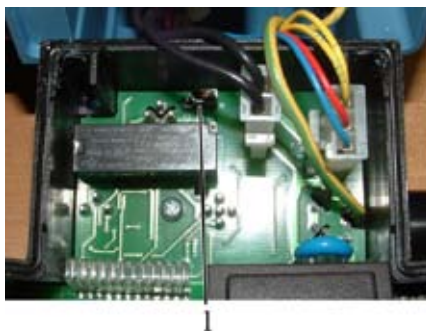

Figure 2.20 - Control Panel Internals
- With the front control panel removed, look for jumper J3 (Figure 2.20, item 1) on the circuit board (located near the inside bottom edge of the control panel). Using small needle nose pliers, remove the jumper from pins 2 and 3, and reinsert the jumper across pins 1 and 2. This will provide a "normally open" alarm contact.